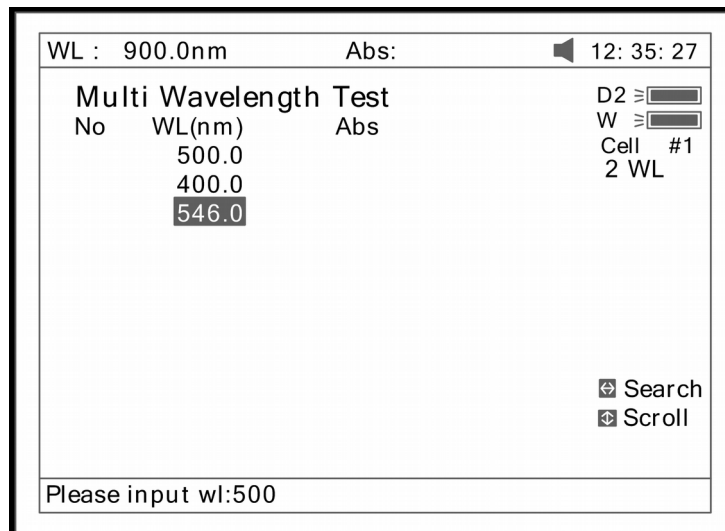

Fig 69
or (V) to modify the inputted data Fig. 69. Press **(ESC/STOP)** to finish setup and exit. Note: It is recommended to enter the highest wavelength first.